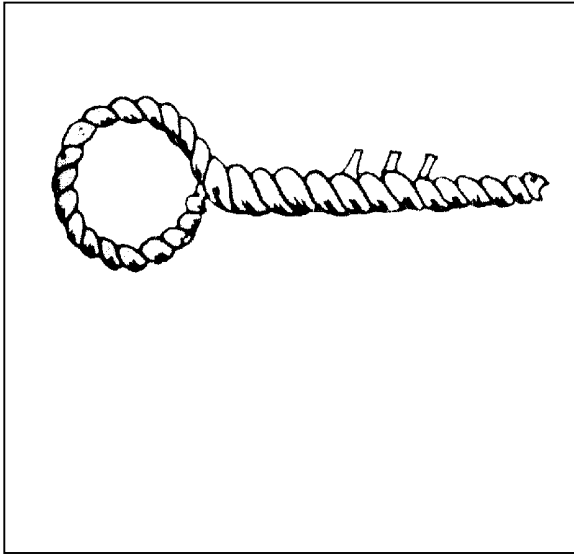

Figure 11-5. Sailmaker's eye splice
g. Sailmaker's Eye Splice. A sailmaker's eye splice (Figure 11-5) is used to make a loop that is going to be sewn to canvas. It is like a regular eye splice, but the strands are interwoven so that they follow the lay of the line.